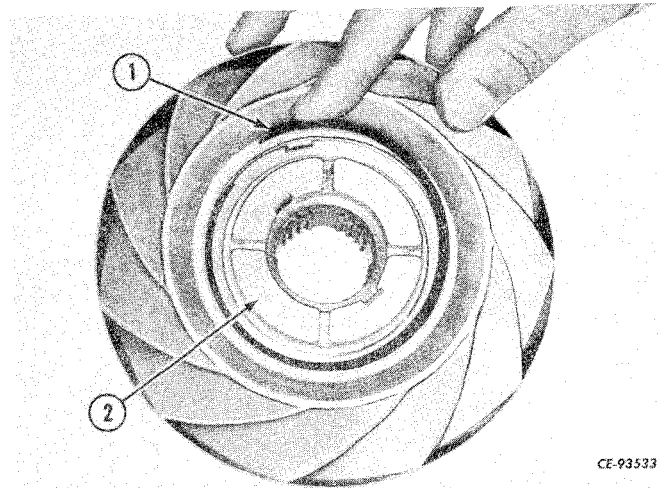

Figure 3-20
Remove the snap ring (1, Fig. 3-20) from either end of the stator bore. Slide out the thrust washer (2).